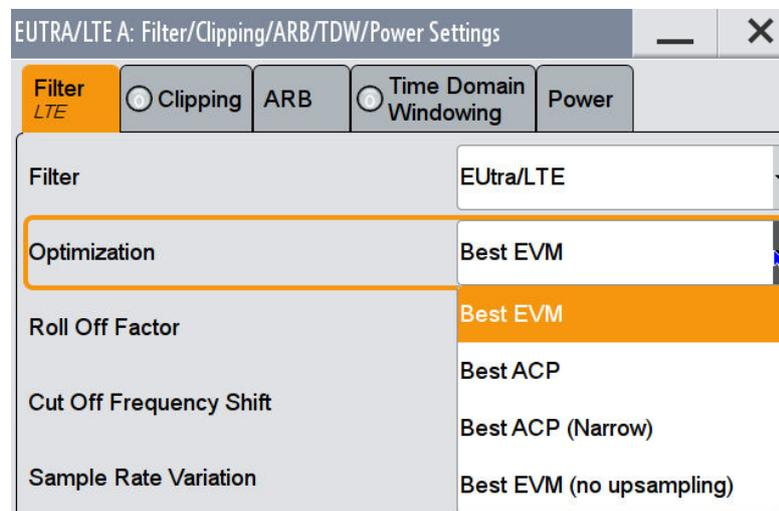

Fig. 3-7: LTE Filter Settings
7. The SMW supports different filters, see Fig. 3-7.